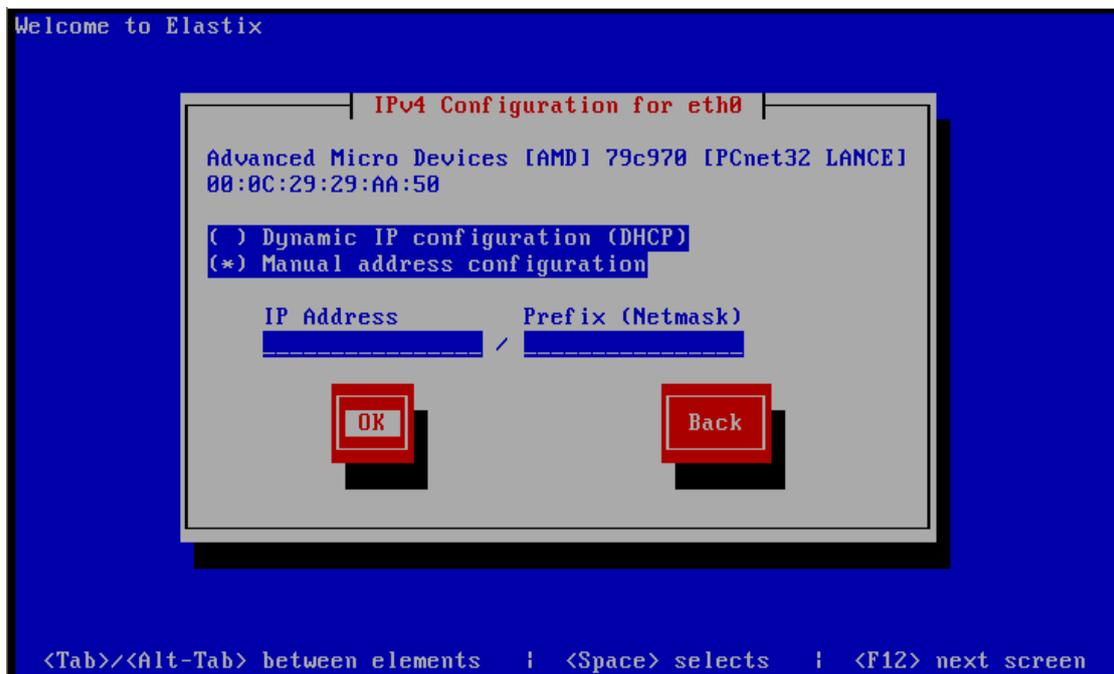

Figure 8
- Next, choose to manually or dynamically configure IP address. Here we select 'Manual address configuration', enter the IP address and the subnet mask below, and then click 'OK' (Figure 8).